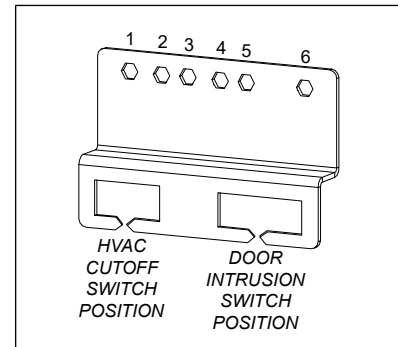
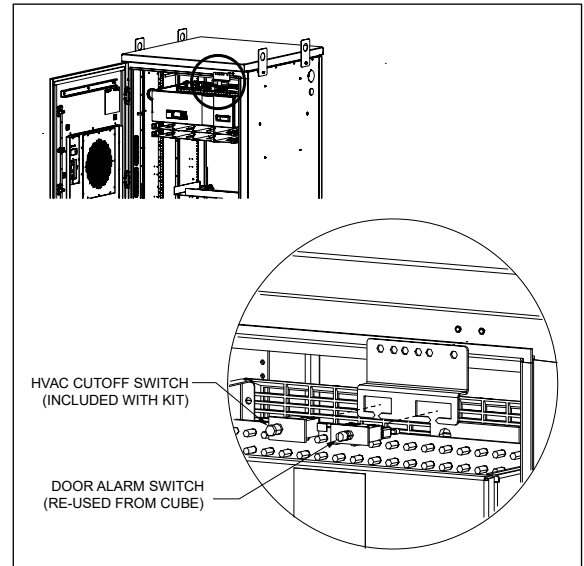

Figure 7 Mounting Hole Positions
Figure 9 Attach Kit Mounting Plate
The replacement switch mounting plate has positions for the two switches, shown in Figure 7. The existing 4-wire door intrusion switch fits into the opening at the right side of the plate, and the new HVAC cutoff switch fits into the left opening.
3. Push the door intrusion alarm switch (removed previously) into the right side opening in the new mounting plate until it clicks. Push an HVAC 2-wire cutoff switch into the left side opening (Figure 9).
4. Use the two nuts removed previously to mount and secure the new plate onto the same pair of studs that the old plate occupied (Figure 9, studs are on the inside of the door frame). Use mounting hole positions 5 and 6 (Figure 7).